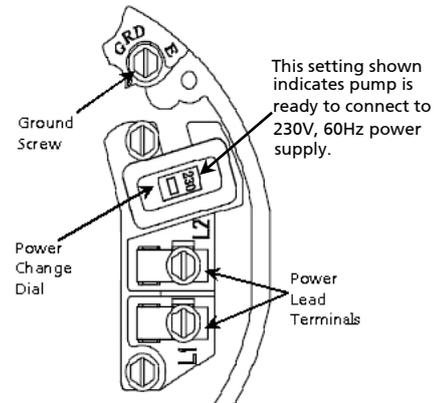

Figure 6- Voltage Set to 230 Volts, Dial Type
Dual-voltage motors are factory wired for 230 volts. If necessary, change switch setting to 115 volts, as shown in Figure 6. Do not alter the wiring in single voltage motors.
Your motor terminal board (located under the motor end cover) should look like the one in Figure 6.
2. Select the UP knob position for 115V or DOWN position for 230V, until 115 or 230 shown in the dial window (see Figure 6).